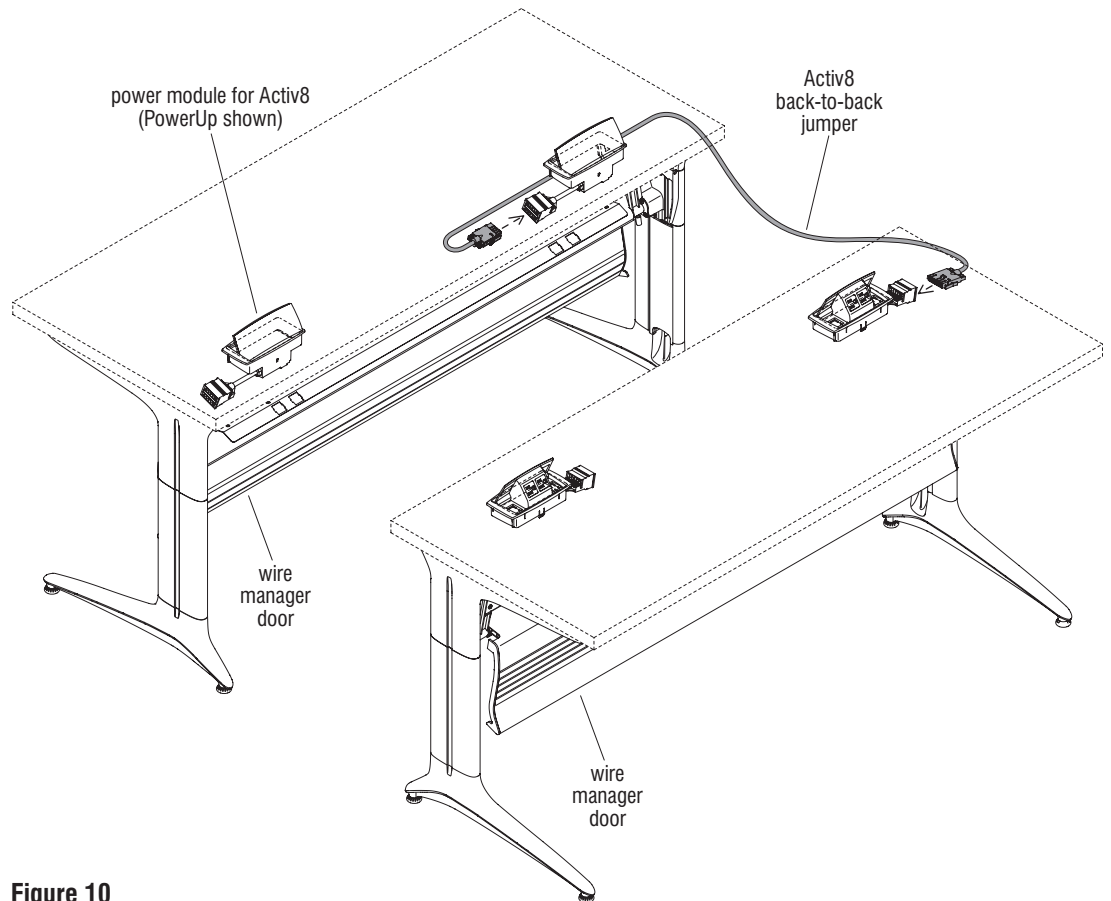

Figure 10
2. Open the wire manager door on each table and install an Activ8 back-to-back jumper across the power modules for Activ8 (PowerUp shown) on each end of the tables (Figure 10).